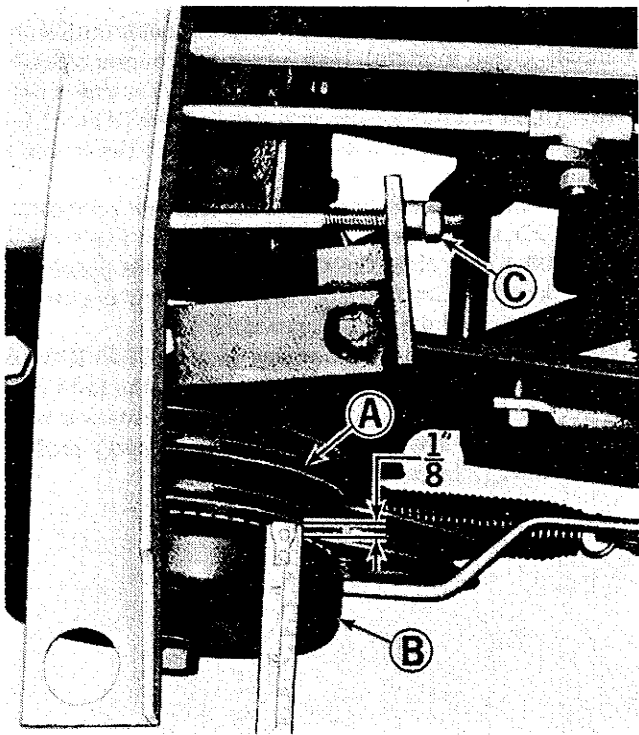

Figure 15. Power take off clutch.
See figure 15. The power take off clutch is properly adjusted when pulley (A) moves 1/8" when the power take off control lever is engaged and disengaged. If adjustment is required, proceed as follows:
3. Observe the movement of pulleys (A) in relation to cup (B) as the power take off control is moved slowly from the engaged to disengaged position. If the pulleys (A) move more or less than 1/8" adjustment is required.
4. Turn the rear most nut at (C) counter-clockwise to loosen it slightly. To increase the amount pulley (A) travels turn the nuts at (C) clockwise. To decrease travel of pulley (A), turn the nuts counter-clockwise. Adjust the nuts at (C) and observe the travel of pulleys (A) as the power take off lever is engaged and disengaged. When adjustment has been made so the pulley (A) travels 1/8" tighten the rear most nut at (C) against the forward nut to lock them in place.